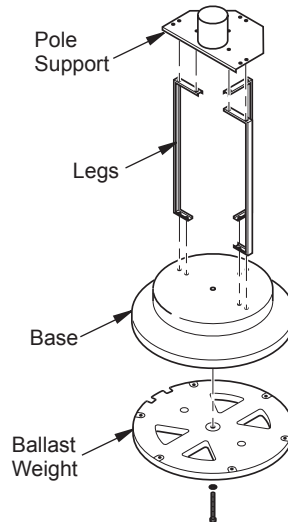

Figure 1 - Base Assembly
1. Attach legs to base using large bolts (2), lock washers (2), and large nuts (2 per leg). See Figure 1. Insert bolts from through legs and into top of base. Attach lock washers and nuts from underneath base. Finger tighten only. Do not fully tighten until next step.
2. Secure pole support to legs using 6 large bolts, lock washers and large nuts per leg. Wrench tighten the nuts and bolts from step 1 (see Figure 1).
3. Attach ballast weight to base using one, long bolt, large lock washer and large nut (see Figure 1).